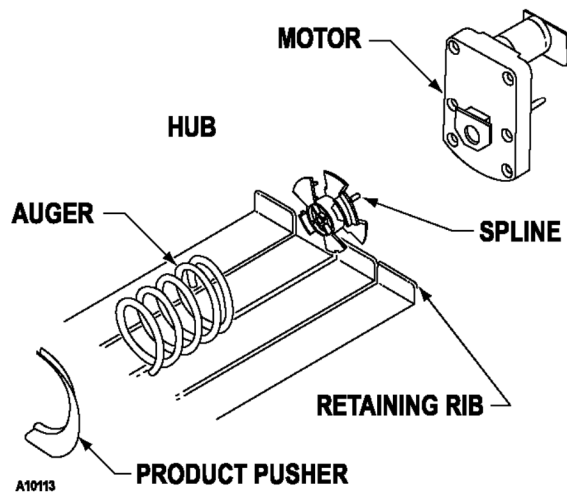

FIGURE 3. MOTOR & AUGER
1. Remove the motor cover. See FIGURE 3.